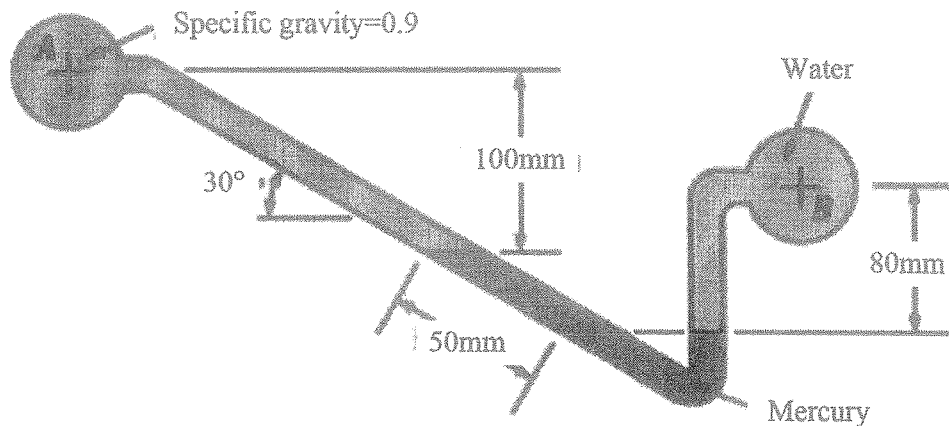

Figure Q1b
- b) A manometer is connected to two pipes, Pipe A and Pipe B, as in Figure Q1b.